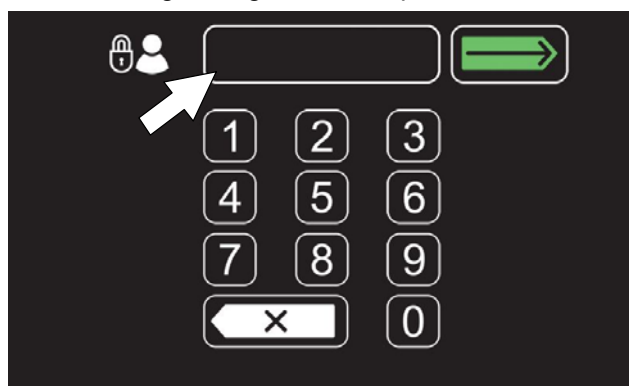

FIG. 181
6. Now at machine start up, the login screen will display (Figure 181). The user will need to enter their assigned login code to operator machine.